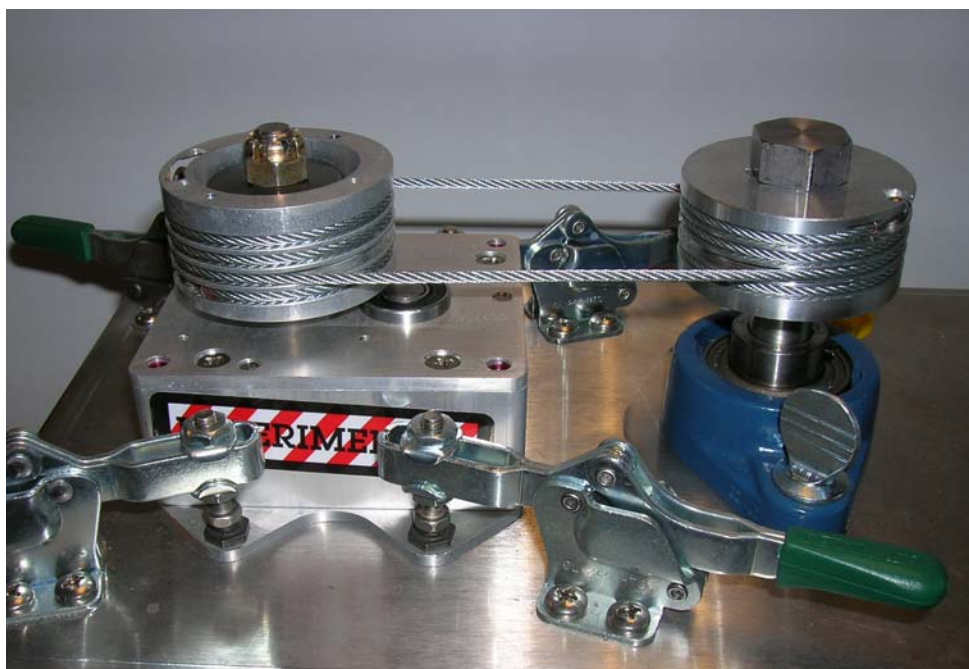

Figure 3-15. 3/32 Cable with retainer clips at center of travel
- 6) With the cables properly installed, the solenoid switch can be turned off and the capstans rotated to bring the cables to center of travel. See Figure 3-15. Continue to Section 3.3.7.5.